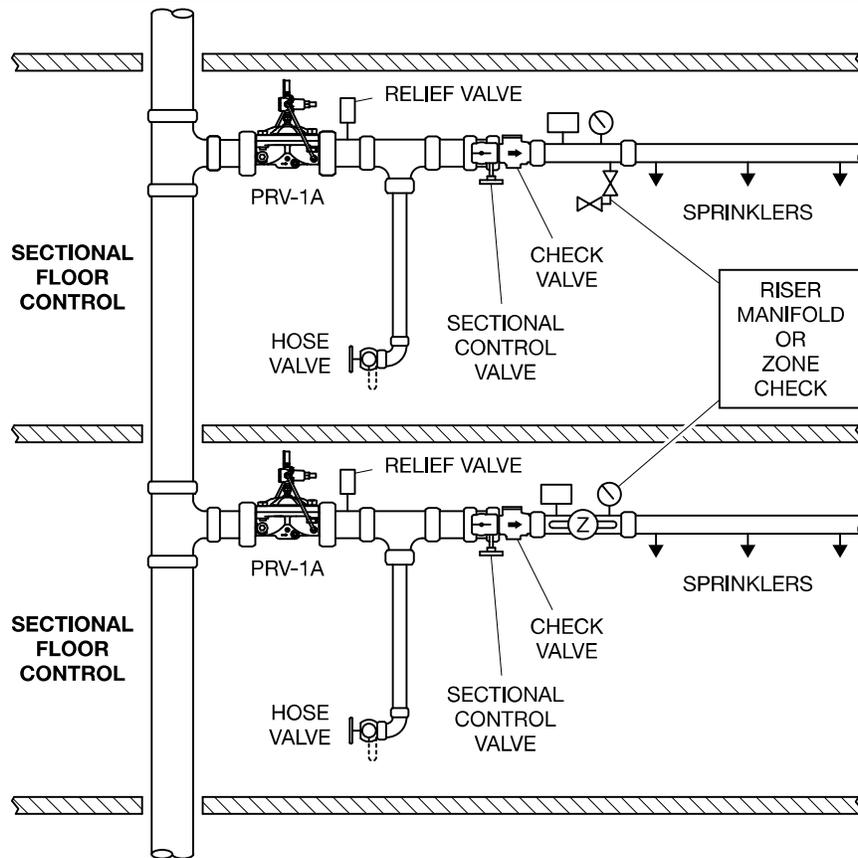

FIGURE 2
- As part of a sectional floor control assembly, as shown in Figure 2, supplying sprinkler systems, and/or hose stations